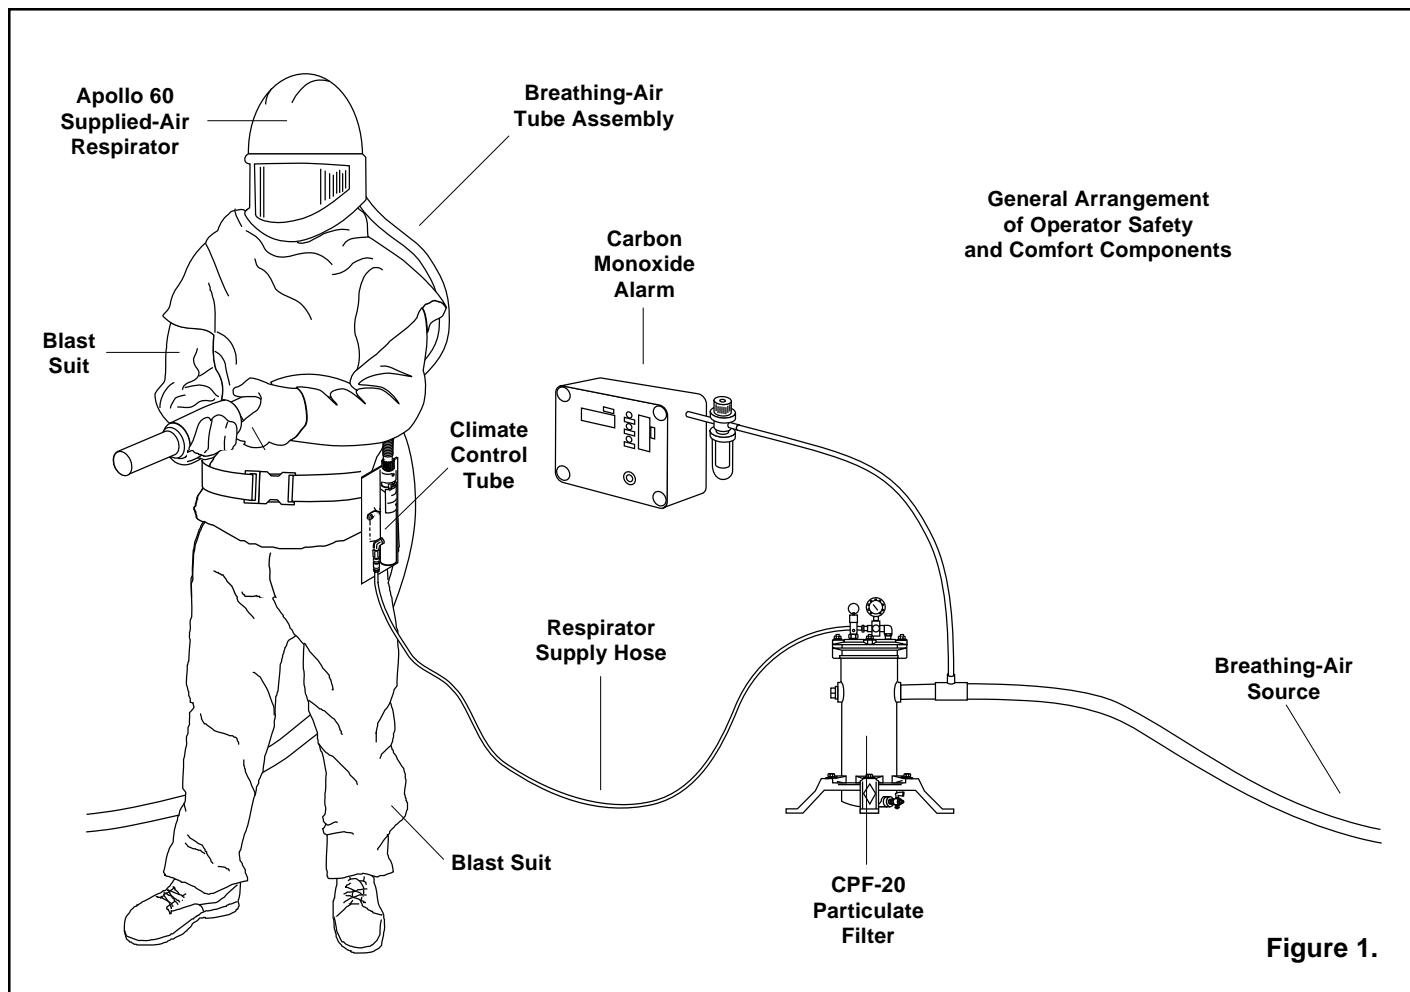

Figure 1.
4.2.1 A pressure regulator and gauge must be installed at the point where the respirator hose is attached to the air source. The Clemco CPF Filter with regulator meets this requirement if the inlet pressure does not exceed 125 psi. See typical installation, Figure 1.